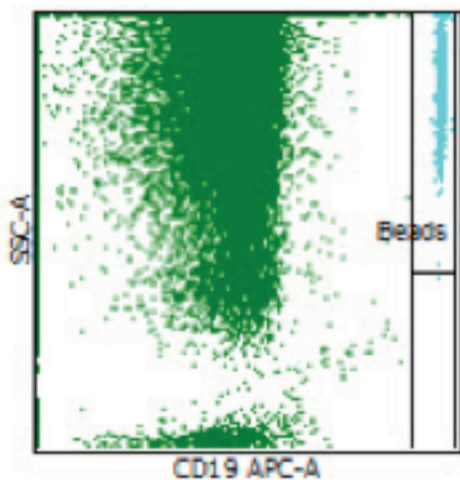

Figure 20: Adequate capture of BD TruCount beads
Step 5. Verify the TruCount gate. This gate should include all beads. All events to the right of the main population should also be included. See Figure 20.